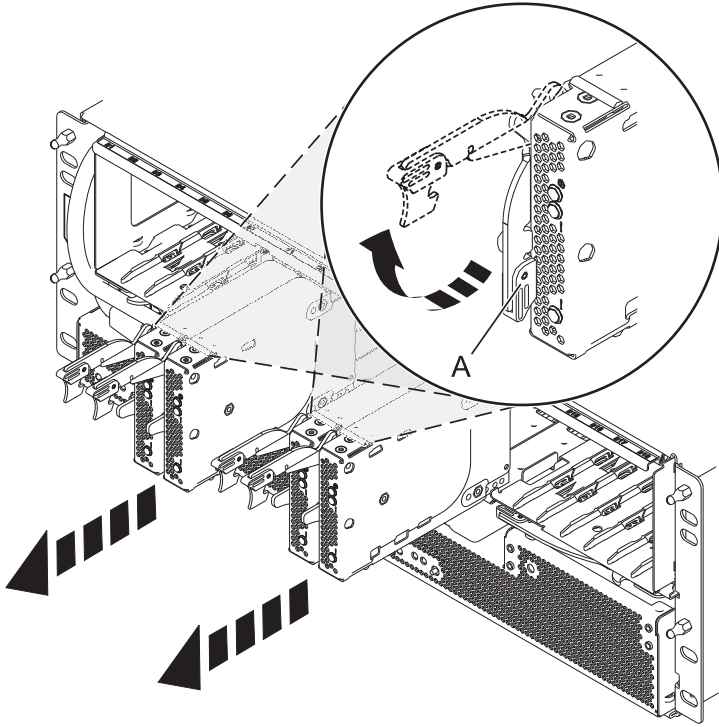

Figure 141. Removing the port card from the backplane
4. Remove the port cards and fillers as shown in Figure 141 on page 166.
- a. Hold the end of the latching handle (A) and pull it upward to unlock the port card.